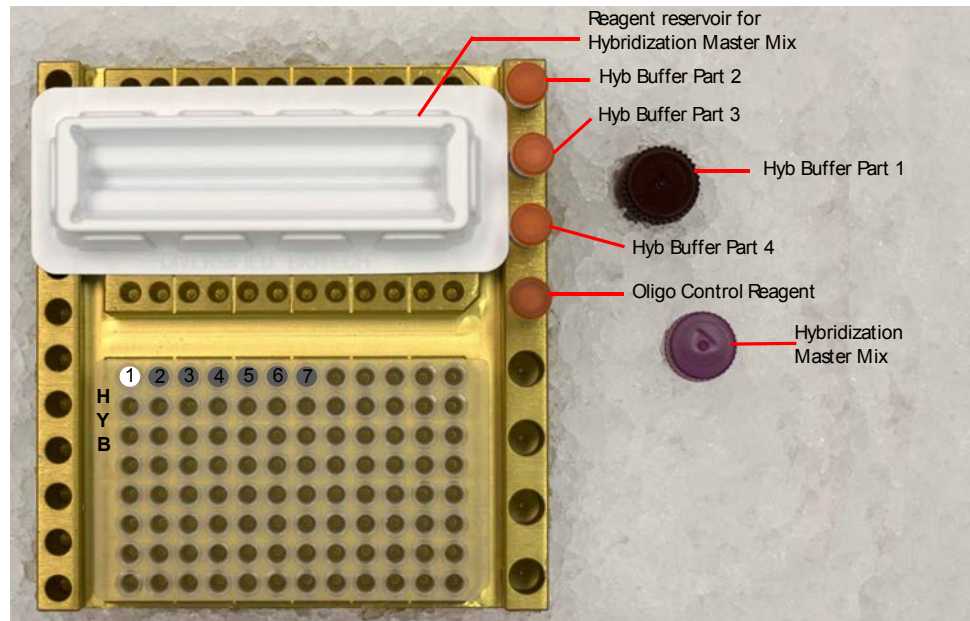

Figure 18 Hybridization setup.
1. Place a double cooling block on ice (Figure 18).
2. Pulse spin for 3 seconds, then place in the cooling block as shown in Figure 18.